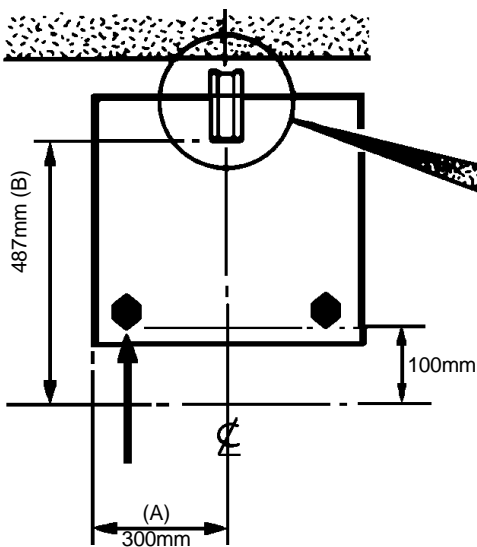
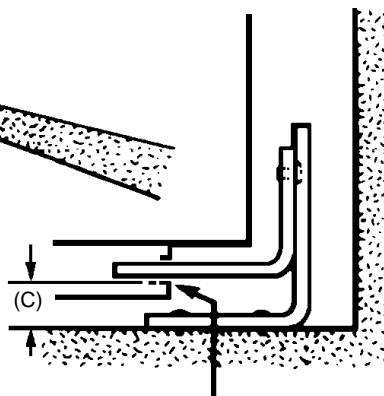

Fig. 2a
Fig. 2b
2. Mark off 300mm from the left hand side of the appliance as shown in dimension 'A', Fig 2a. This is the centre line of the fixing bracket.
3. Draw a line 100mm from the front edge of the levelling feet (see Fig.2a) and remove appliance from its position. Mark off dimension 'B' (see Fig.2a) back from this line on the centre line of the bracket to locate the front edge of the lower bracket. Fix lower bracket (with two fixing holes) to the floor then measure the height from floor level to engagement edge on back of appliance, dimension 'C' of Fig.2b.
Reposition appliance and check that top bracket engages into appliance back as shown in Fig. 2b.